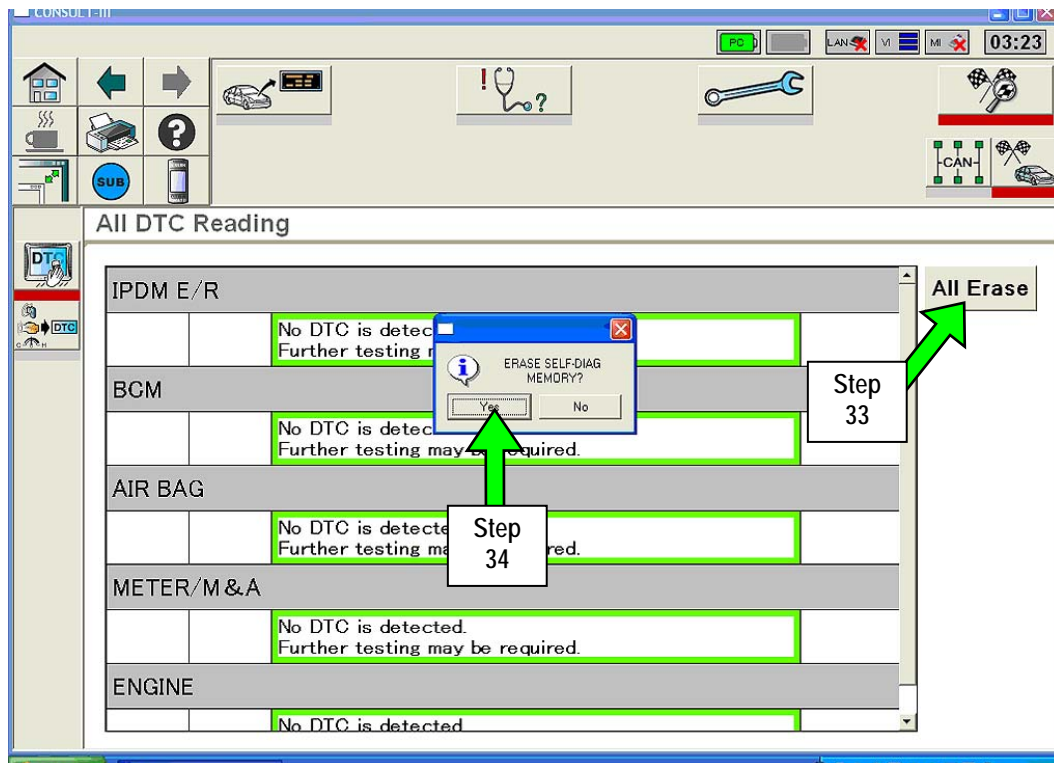

Figure 15
33. When the screen in Figure 15 appears, click on All Erase.